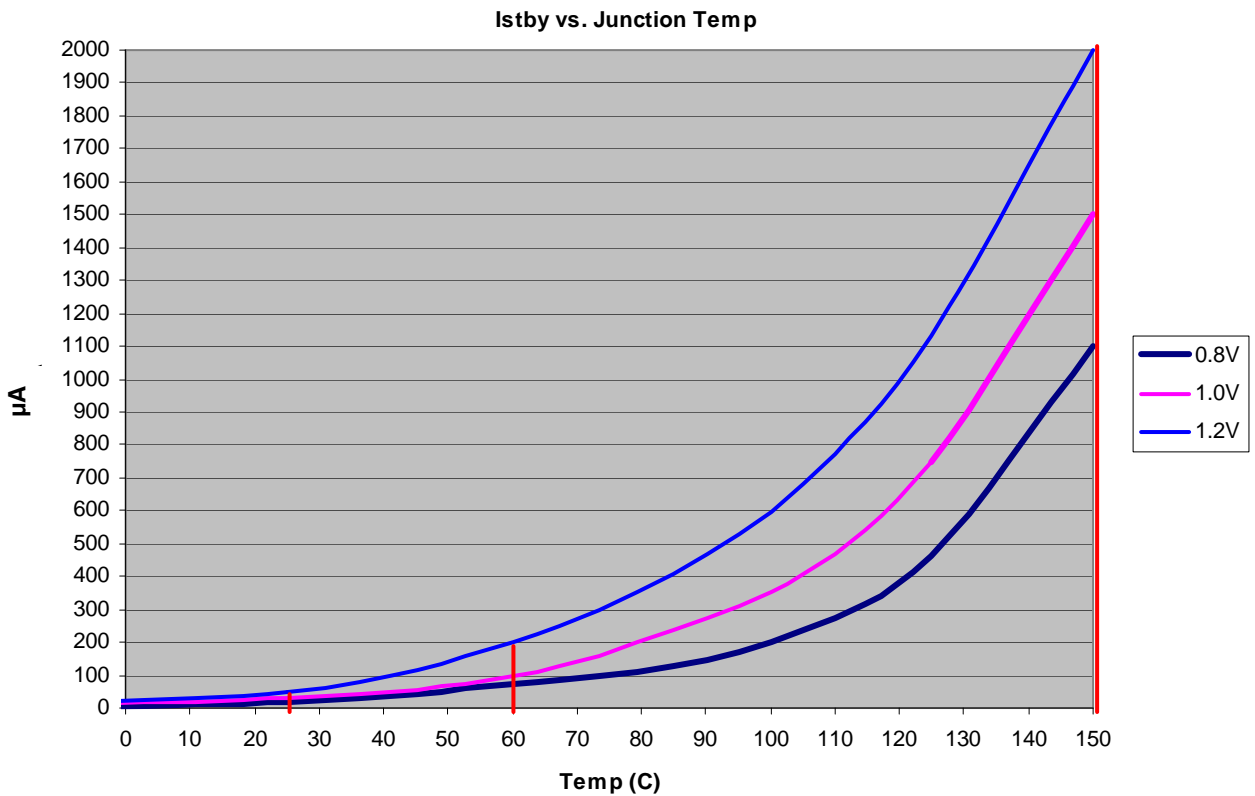

Figure 3. I_{STBY} Worst-case Specifications
27d	Refer to Figure 3 for an interpolation of this data. ¹¹
- ⁷ Figure 3 shows an illustration of the I_{DD_STBY} values interpolated for these temperature values.
- ¹¹ Figure 3 shows an illustration of the I_{DD_STBY} values interpolated for these temperature values.
Figure 3 shows an approximate interpolation of the I_{STBY} worst-case specification to estimate values at different voltages and temperatures. The vertical lines shown at 25 °C, 60 °C, and 150 °C in Figure 3 are the actual I_{DD_STBY} specifications (27d) listed in Table 9.